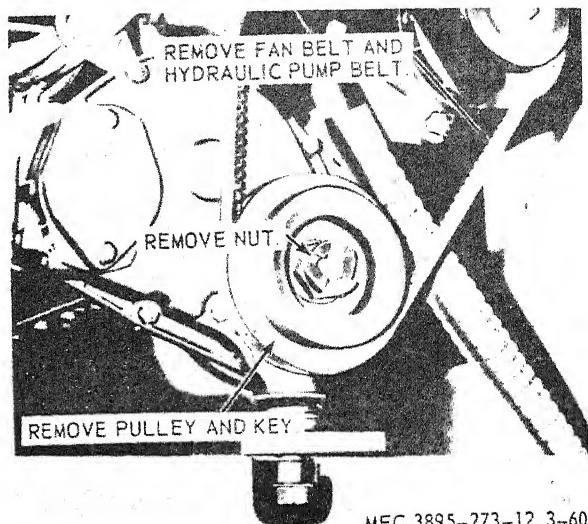

Figure 3-57. Crankshaft pulley, removal and installation.
- (2) Remove the drive and hydraulic pump belts (paras 3-76 and 3-112).
- (3) Remove the crankshaft pulley as instructed on figure 3-57.
- (1) Install the crankshaft pulley in reverse of the instructions on figure 3-57.
- (2) Install the drive and hydraulic pump belts (paras 3-76 and 3-112).
- (3) Secure the dust shield to the frame with six (6) nuts and lockwashers.